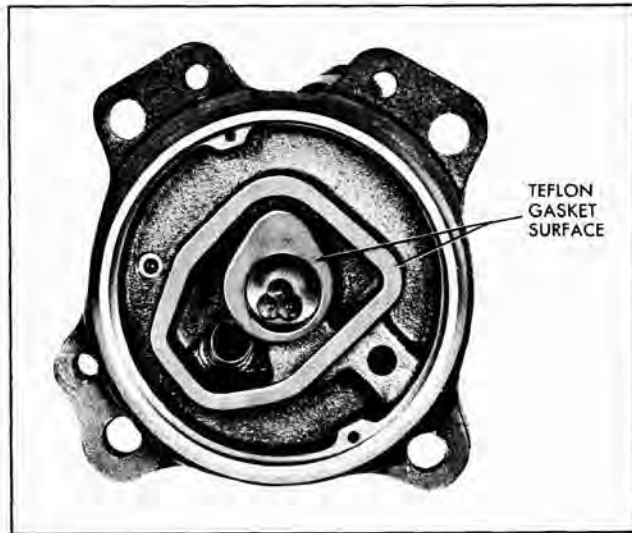

Fig. 5-68 Teflon Seal on Head Casting Web
5. Examine teflon surface on the rear head casting webs. If any damage is observed, the head should be replaced (Fig. 5-68).